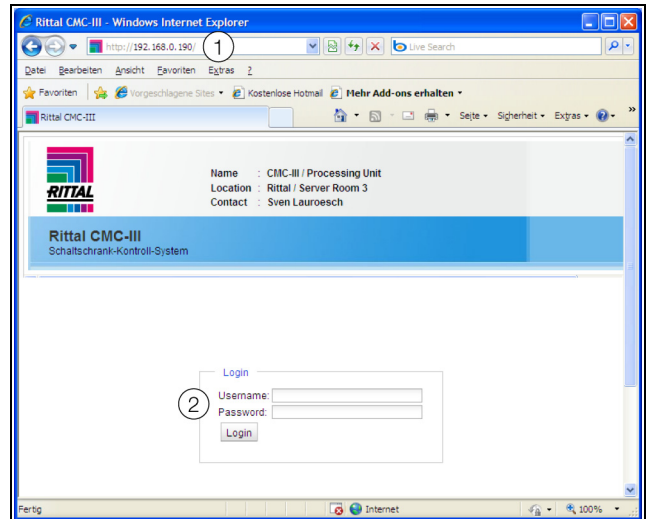

Fig. 12: Login page for an HTTP connection
- Enter the **http://192.168.0.190** address in the browser (fig. 12, pos. 1). The login dialogue to log in to the device will be displayed.
- Login as **admin** user with password **admin** (fig. 12, pos. 2).